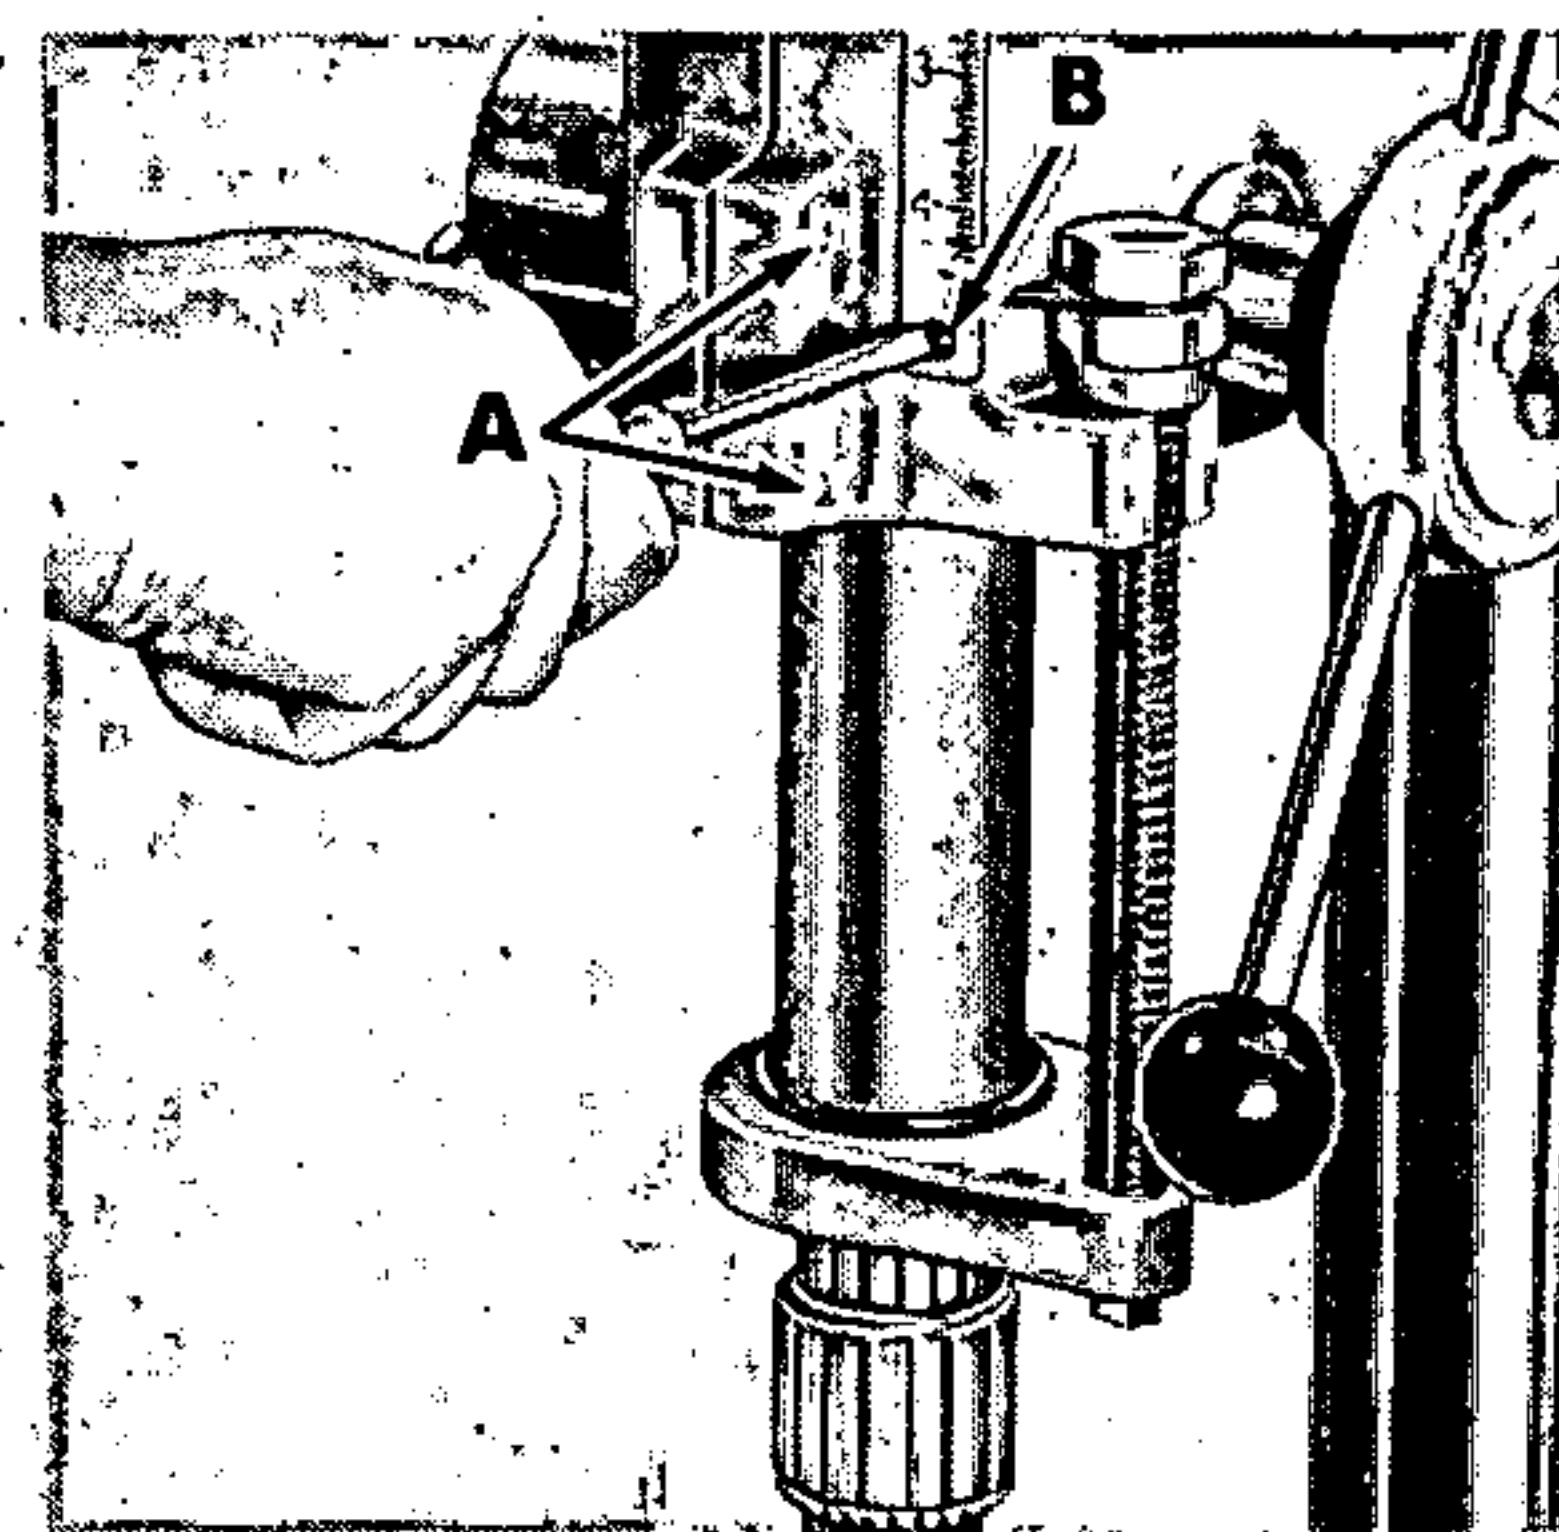

Figure 6
2. Loosen screws and with quill at maximum travel, position scale so pointer is at $4\frac{3}{4}$ ", then tighten screws (B, fig. 6).
Front of drill press head is split — has two take-up screws set at factory to provide accurate fit between head and quill. This setting should not be disturbed unless play develops between quill and head. To eliminate play, tighten screws (A, fig. 6) — using correct size screw driver — until play has been removed. Move quill up and down in head to make sure it slides freely.